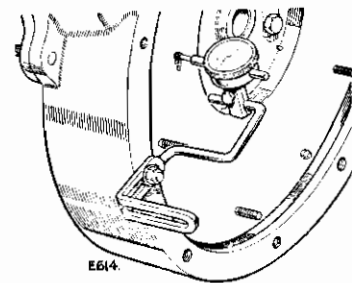

Fig. A-419—Checking run-out on flywheel face
- Check the run-out on flywheel face as illustrated by Fig. A-419. The run-out on flywheel face must not exceed $\frac{1}{16}$ in. (0,05 mm).